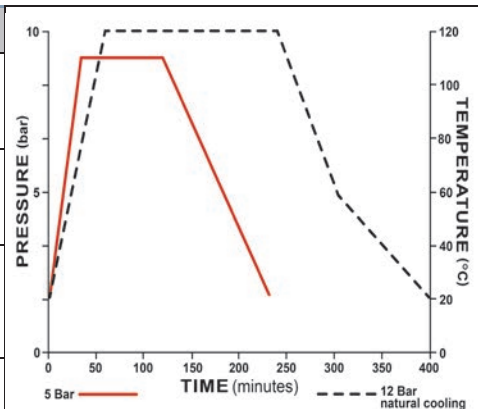

Fig. 5, graph of typical autoclave lamination cycle for TPU interlayer
- Ramp-down time down (reduction of temperature and pressure), see fig. 5